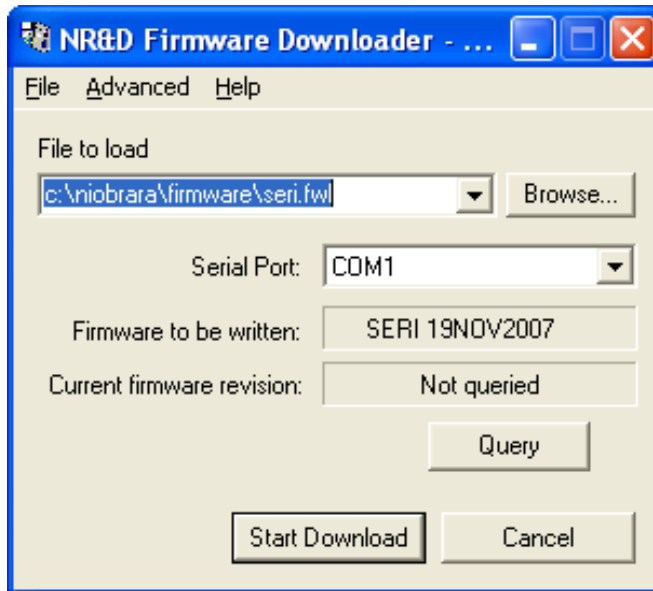

Figure 2-2 SERI Firmware Download
- 6 From the start menu of the computer select "Start, Programs, Niobrara, SERRI, Download SERRI Firmware". Fwload will start with the File to load c:\Niobrara\Firmware\seri.fwl selected. (See Figure 2-2)